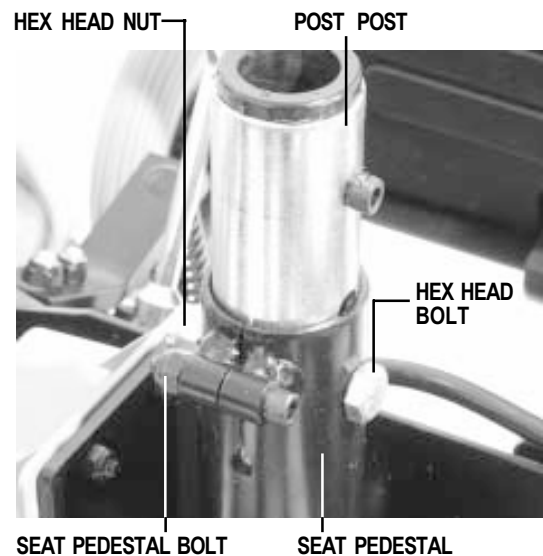

Figure 7. Seat Height Adjustment
7. Loosen the seat pedestal bolt. See figure 7.
8. Use two wrenches to loosen and remove the hex head nut and bolt. See figure 7.